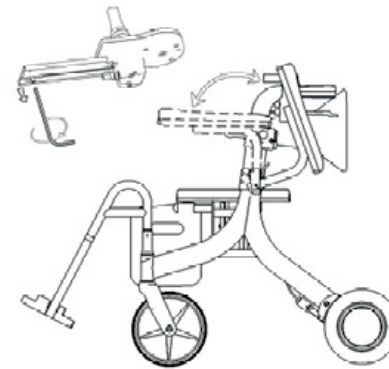

FIGURE 17
1. Adjust the armrest to the normal state..First find the front joystick controller and remove the screws ① from the joystick with the tool kit. (Figure 17)